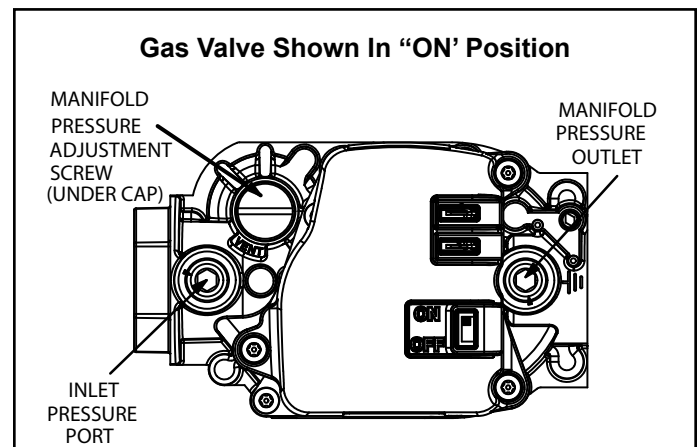

Figure 56.
See Figure 56
6. Move gas valve switch to OFF. See Figure 56.
8. Move gas valve switch to ON. See Figure 56.